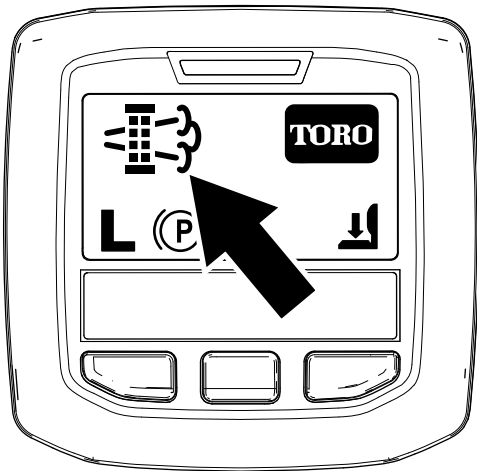

Figure 52
- When the engine computer requests either a parked regeneration or a recovery regeneration, the regeneration request icon (Figure 52) displays in the InfoCenter.